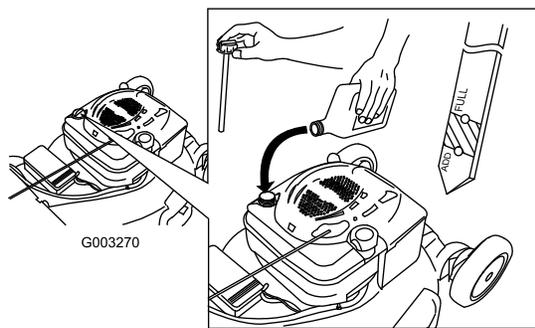

Figure 7
- Remove the dipstick (Figure 7).
2. **Slowly** pour oil into the oil fill tube until the oil level reaches the Full line on the dipstick (Figure 7). **Do not overfill.** (Max. fill: 20 oz. (0.59 l), type: SAE 30 detergent oil with an API service classification of SF, SG, SH, SJ, SL, or higher.)